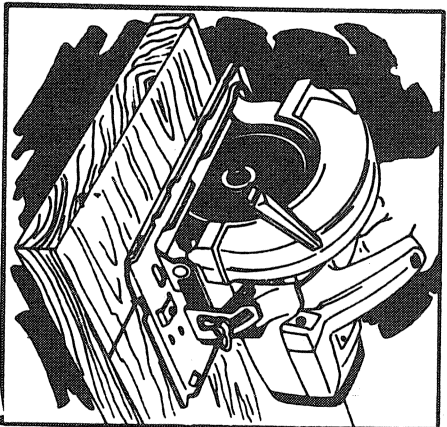
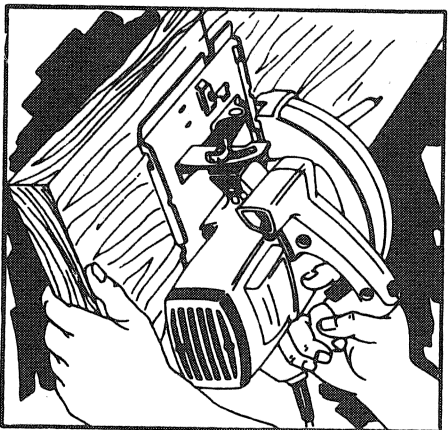

Figure 10 — Right
Figure 11 — Wrong
**ALWAYS DISCONNECT SAW BEFORE MAKING ANY ADJUSTMENTS!** Place the work with its "good" side — the one on which appearance is most important — down. The saw cuts upward, so any splintering will be on the work face that is up when you saw it. Support the work so that the cut will be on your right. Place the wider portion of the saw shoe on the part of the work piece which is solidly supported, not on the section that will fall off when the cut is made. As examples, Figure 10 illustrates the **RIGHT** way to cut off the end of a board, and Figure 11 the **WRONG** way. If the work is short or small, clamp it down. Don't try to hold short pieces by hand!
work and then back it off about 1/4". Now, start the motor, and when the blade gains full speed, push the saw forward and begin sawing. As you begin cutting, the lower blade guard will automatically begin to telescope into the upper blade guard. This telescoping action will continue as you advance the saw until it reaches the position in Figure 10.